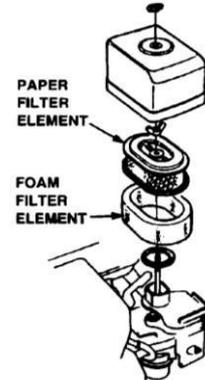

Figure 2. Air filter
2. To clean or replace the air filter, loosen the wing nut on the air filter housing (Figure 2). Remove the cover and take out the air filter cartridge. If only cleaning of the air filter is needed, blow through the air filter cartridge from the inside, moving a jet of dry compressed air up and down until all dust is removed.